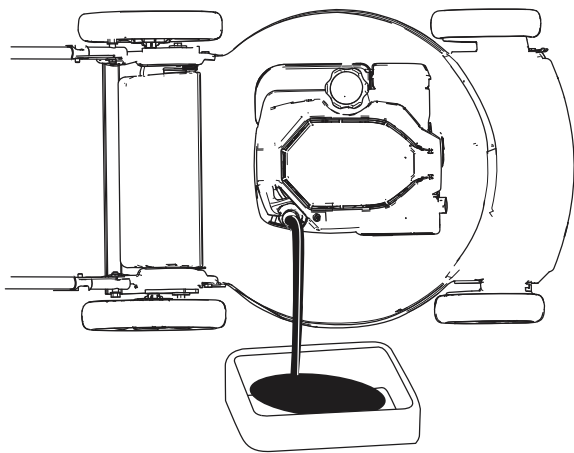

Figure 21
- 4. Tip the machine onto its side (so that the air filter is up) to drain the used oil from the oil-fill tube (Figure 21).